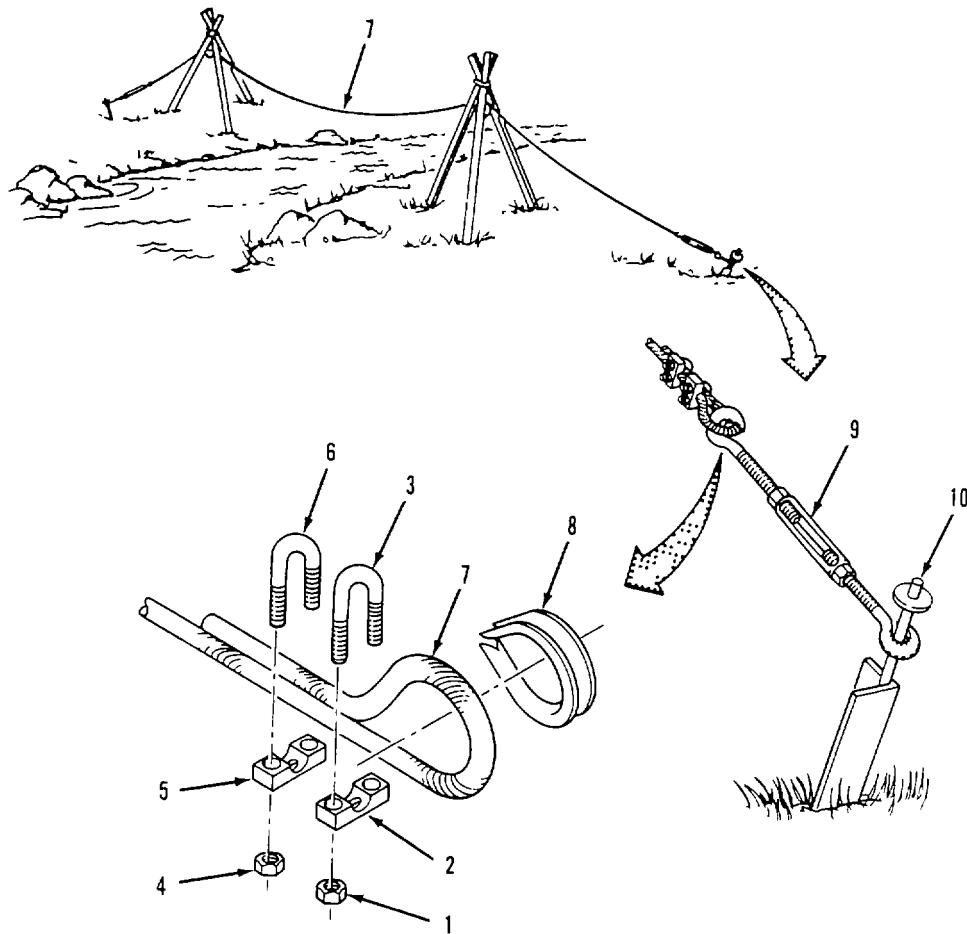

Figure 2-34. Wire Rope and Turnbuckle Disassembly
Disassemble Wire Rope and Turnbuckles Refer to figure 2-34.
- (27) Push up on toggle levers (19) and lock retaining brackets (18) against metal rims (15).
- (28) Repeat steps (17) through (28) until entire hose length (1000 feet) has been packed in flaking box.
- (29) Remove pullboard (11), hoist (12) and retaining brackets (18) from flaking box (14).
- (30) Remove nut (1, figure 2-34) and eyebolt (2) from front wall of flaking box (4).